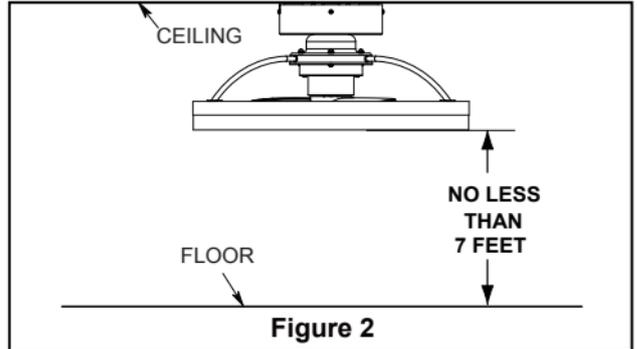

Figure 2
The fan must be hung with at least 7' of clearance from floor to blades. (Figure 2)
Align the U-slot of the fan blade with the locating pin of the motor shaft. The pin should sink into the U-slot of the fan, then insert the hairpin into the side hole of the motor shaft and clamp it on the motor shaft. Finally, screw the fan nut cover into the Motor shaft and tighten it counterclockwise to fix the fan blade. (Figure 2)
- 2.** Restore electrical power to the outlet box by turning the electricity on at the main fuse box. (Figure 2)
Align the U-slot of the fan blade with the locating pin of the motor rotating shaft. The pin should sink into the U-slot of the fan, then insert the hairpin into the side hole of the motor rotating shaft and clamp it on the motor rotating shaft. Finally, screw the fan nut cover into the middle shaft of the motor and tighten it counterclockwise to fix the fan blade. (Figure 2)
The U-slot of the fan blade must be installed on the locating pin of the motor rotating shaft, otherwise the fan cannot run.(Figure 2)